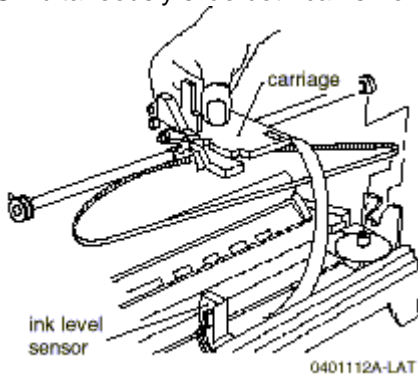

Figure 2.
CAUTION: Ensure no portion of carriage is beneath ink level sensor during carriage removal. Simultaneously slide both cams from their respective slots (Figure 2).
6. Remove the carriage from printer side frames (Figure 2).